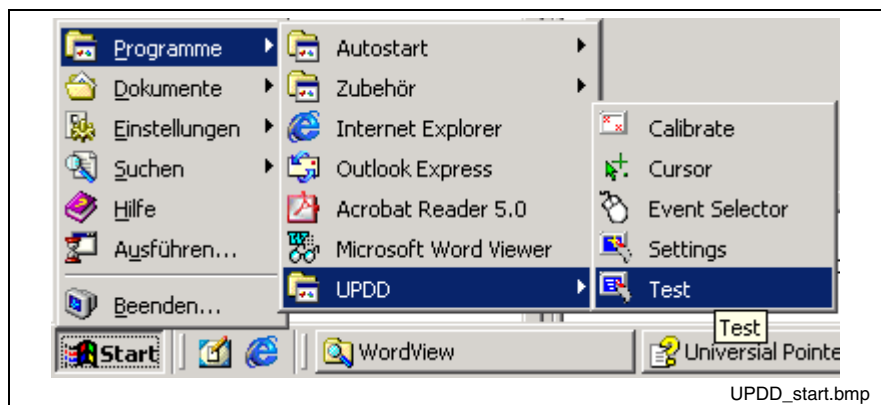

Fig. 9-1: UPDD setup programs for the touch screen
- Fig. 9-1: UPDD setup programs for the touch screen 9-1